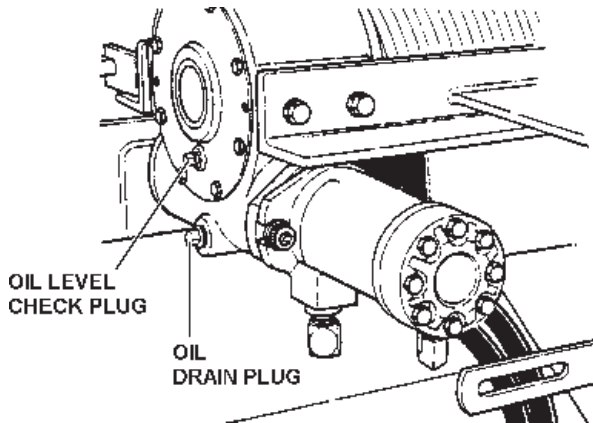

FIGURE 3.4
3.6 The self-locking, worm-driven winch is powered by its own hydraulic motor attached directly to the winch input shaft. See Figure 3.4.
CHECK OIL LEVEL IN WINCHES BEFORE ANY OPERATION. FILL TO PROPER LEVEL WITH REQUIRED GEAR LUBRICANT AS NEEDED. REFER TO FIGURE 3.4 AND SECTION V, MAINTENANCE FOR PROPER PROCEDURES.